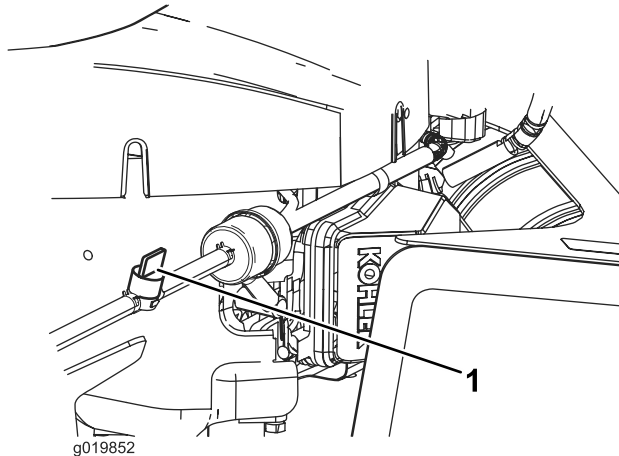

Figure 38
4. Turn the fuel shut-off valve to the closed position (Figure 38).
5. Squeeze the ends of the hose clamp on the engine side of the shut-off valve together and slide it up the fuel line away from valve (Figure 38).
6. Pull the fuel line off the valve (Figure 38). Open the fuel shut-off valve and allow the gasoline to drain into a gas can or drain pan.
3. Turn the fuel shut-off valve to the closed position (Figure 38).
7. Turn the fuel shut-off valve to the open position (Figure 38).